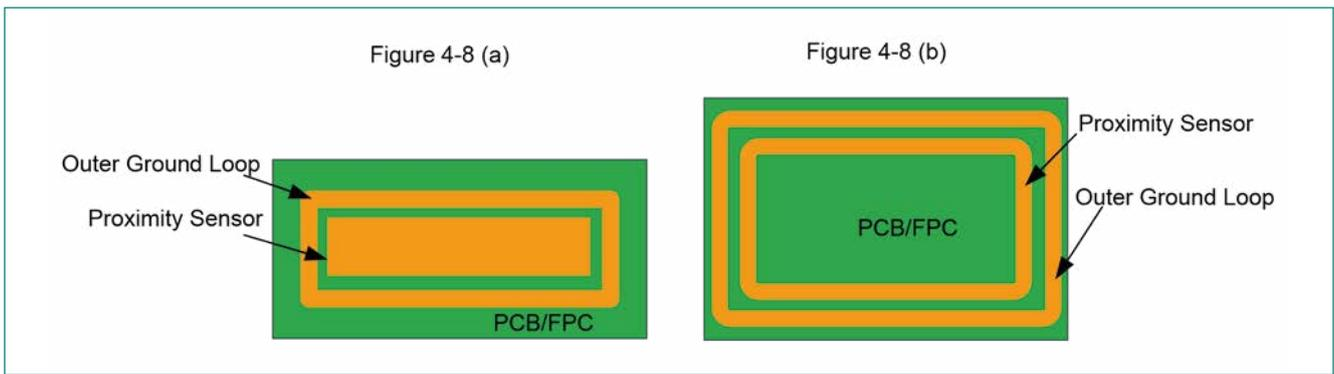

Figure 4-8 Proximity Sensor Construction on PCB/FPC
- Copper trace on a PCB or FPC: A long PCB trace can be used as a proximity sensor. The trace can be a straight line, or it can surround the perimeter of a system’s user interface, as Figure 4-8 shows. Proximity sensor construction using PCB trace is appropriate for mass production, but it is not as sensitive as a wire sensor. It is recommended to have a ground loop around the proximity sensor to reduce the noise and provide immunity against ESD events. There is a trade-off between proximity range and noise immunity, ESD performance. For proximity sensor and ground loop layout recommendations, refer to the General Layout Guidelines sheet of the design toolbox.